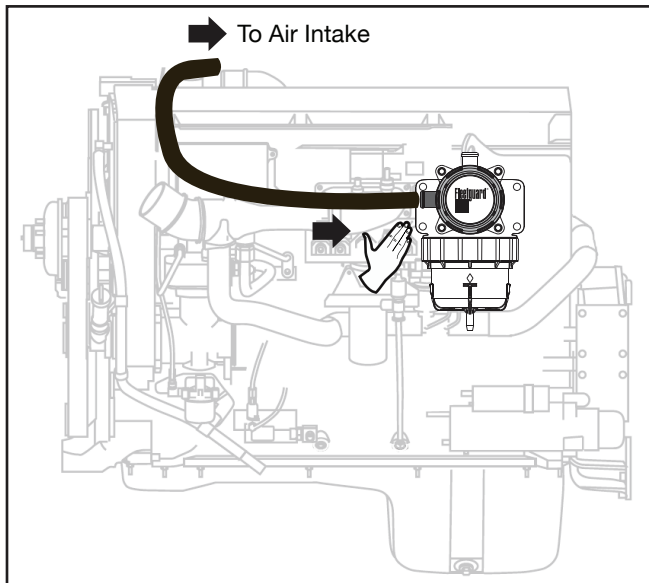

Figure 4 – Connecting to Outlet (Closed)
1. Locate an area downstream of the air filter, but upstream of the turbocharger for the hose connection. The hose can be connected to an unused port, to a T-style connecting coupler, or to a hose barb welded onto a metal section of the air intake ducting. See Figure 4.